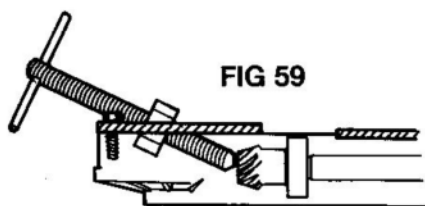

FIG 59
5. Fit bearing location screw (See Fig. 59 marked A) and leave nut loose.